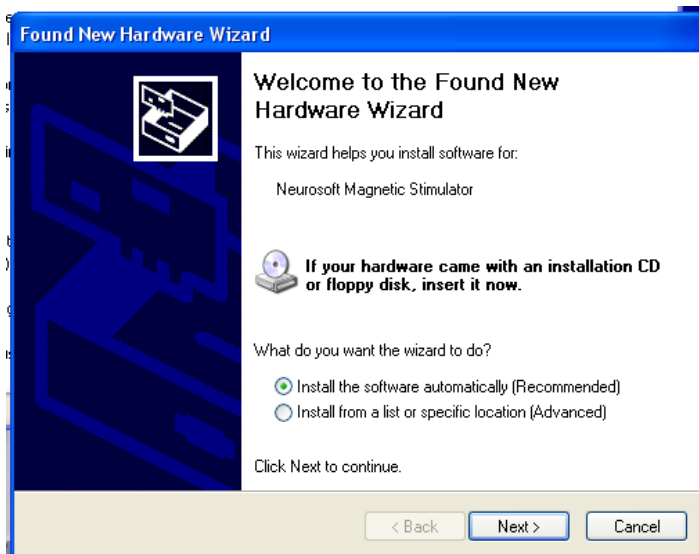

Fig. 20. “Found New Hardware Wizard” dialog box.
2.4.2.7 Secure the coil in a flexible arm (Fig. 20) (see technical manual for the flexible arm).
If the dialog box shown in Fig. 20 appears after stimulator connection to computer, press  button, **without inserting the electronic media**.